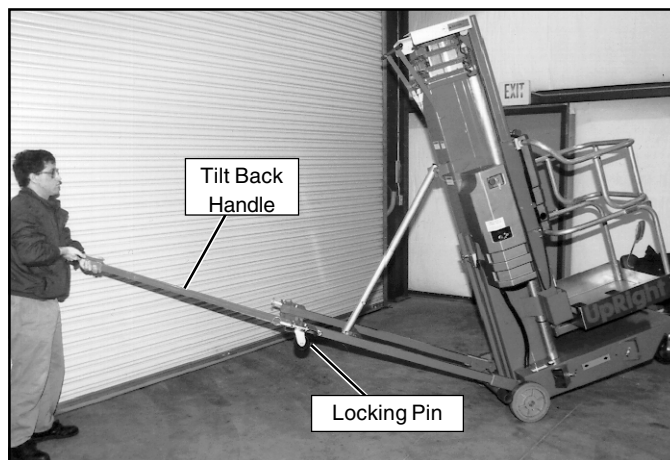

Figure 9: Lowering and raising with Tilt Back Handle
4. Extend Tilt Back Handle to the tilt/lift position by releasing locking pin and pulling handle out of the Tilt Back assembly until the locking pin engages (Figure 9).
5. Push down on the Tilt Back Handle until the unit comes to rest on the Tilt Back frame. As the mast tilts back, counterbalance the machine's weight by increasing upward force on end of Tilt Back Handle (Figure 9). This allows machine to gently come to rest on Tilt Back casters.
3. Lift up on the Tilt Back Handle. As the mast approaches vertical, counterbalance machine's weight by increasing the downward force on end of Tilt Back Handle (Figure 9). This allows machine to settle gently on the front casters.